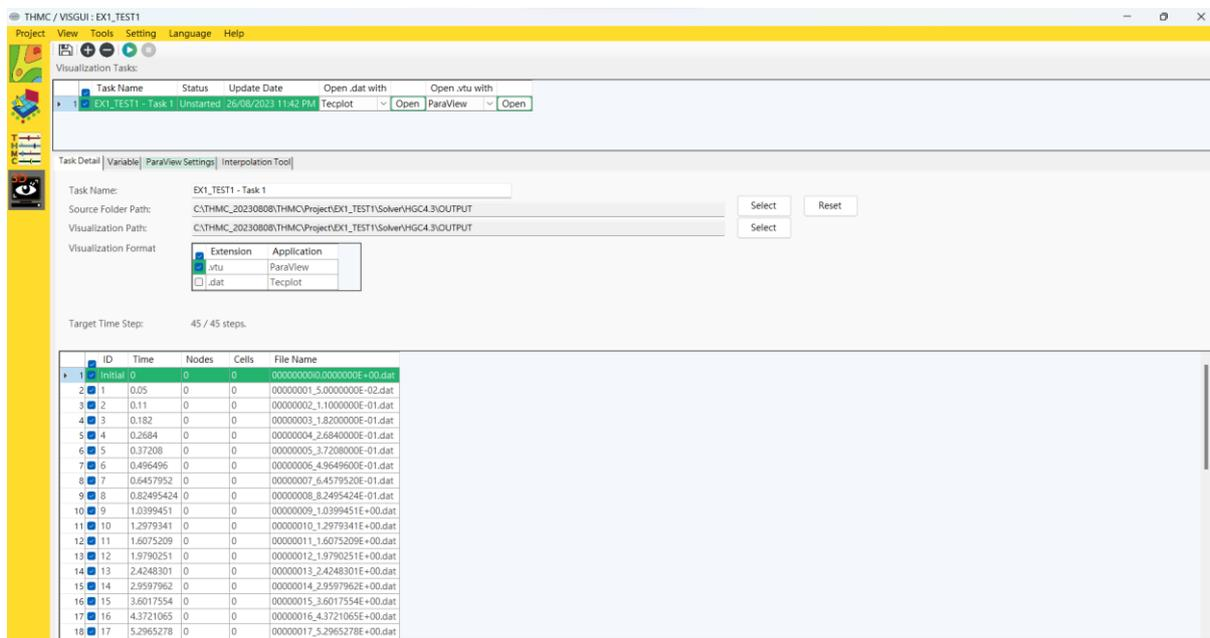

Figure 1.47. Visualization GUI window.
The Visualization GUI has the following five tools: Save , Add Task , Remove Task , Start , and Pause  as shown in Figure 1.47.
3. Click the 'Open' button next to 'ParaView' in Figure 1.47.